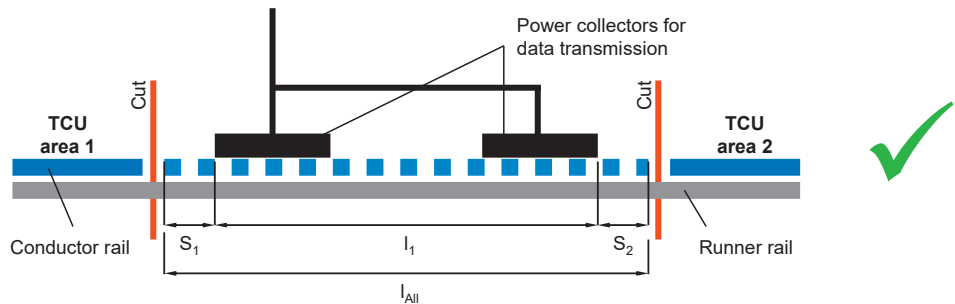

Fig. 8: Correct execution of TCU area transitions
- To do this, create two separation sections (as shown in Fig. 8).